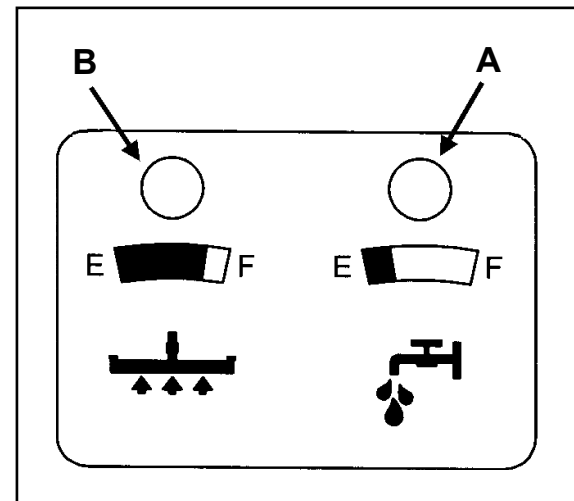

Figure 23
**How to Read the Solution Empty Indicator (see figure 23, A)**
**How to Read the Recovery Full Indicator (see figure 23, B)**